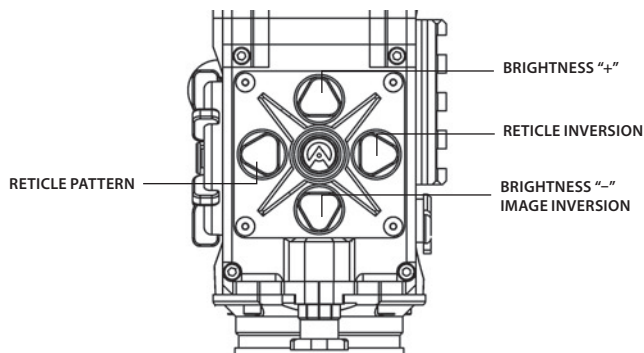

FIGURE 3-15. SETTING BUTTONS
8. Using the buttons on the control panel (Figure 3-15), configure the Drone PRO to adapt it to your situation.